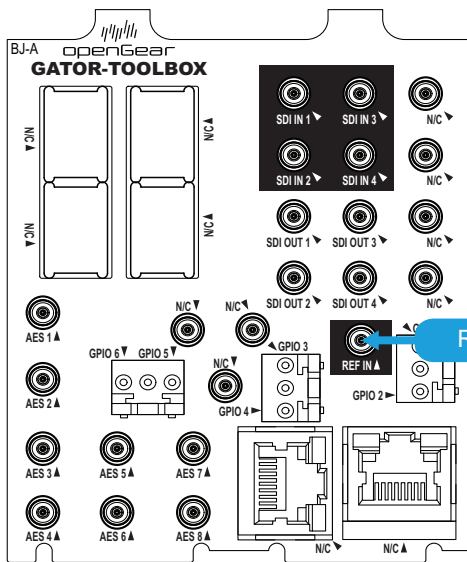
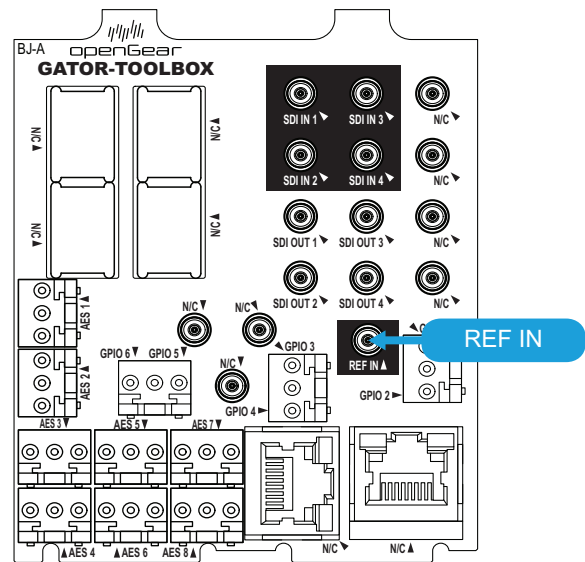
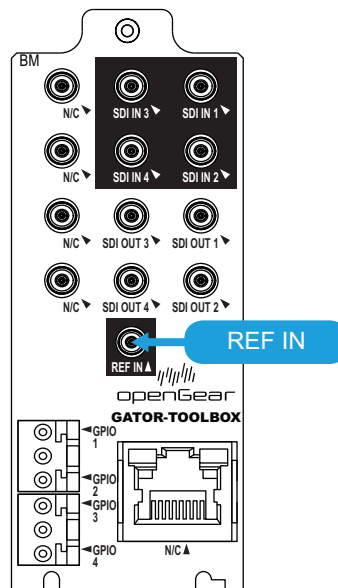

Figure 11 R3A-GATOR — REF IN
Figure 12 R3B-GATOR — REF IN
Figure 13 R4-GATOR — REF IN
1. Connect one end of a cable to the **REF IN** HD-BNC on the GATOR-TOOLBOX rear module. Refer to **Figure 11**, **Figure 12**, or **Figure 13**.